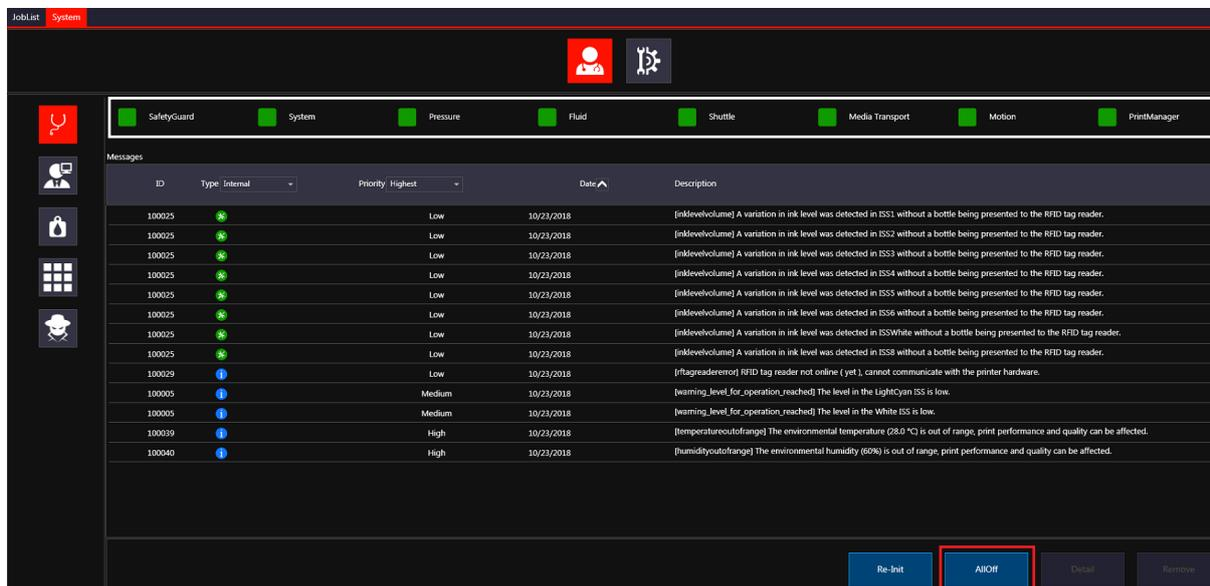

Fig.4-26: Main Window - All Off Button
- Step 3: Close the Main Window by clicking on the right top X of the window (outlined in green in Fig.4-26).